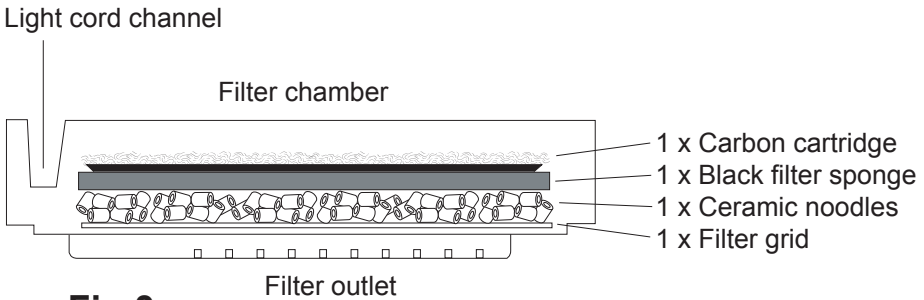

Fig 3
6. Place the filter grid in the bottom of the filter unit followed by the ceramic noodles. Fig 3
7. Place the black filter sponge on top of the ceramic noodles. Fig 3
8. Place the carbon cartridge on top of the black filter sponge with the wool facing upwards. Fig 3
19. Place the light unit on the front of the aquarium, with the power cord passing through the light cord channel. Fig 3